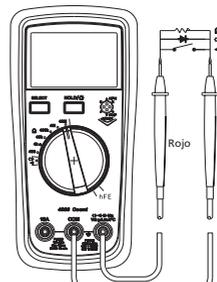

Fig. 2
2. RESISTANCE MEASUREMENT (see fig. 2)
3. CONTINUITY MEASUREMENT (see fig. 2)
4. DIODE MEASUREMENT (see fig. 2)
5. HFE MEASUREMENT (see fig. 2)
8. DC CURRENT MEASUREMENT (see fig. 2)